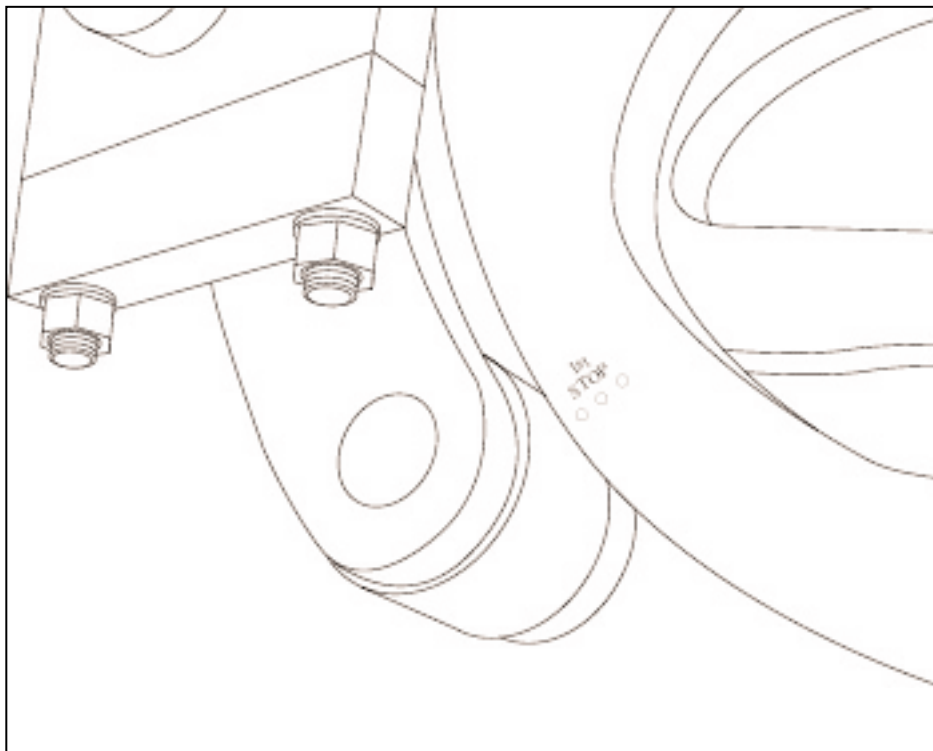

Figure 4.32 "FIRST STOP" (R.H. side of machine)
4.3.1 Run machine to "first stop" (see figure 4.32)